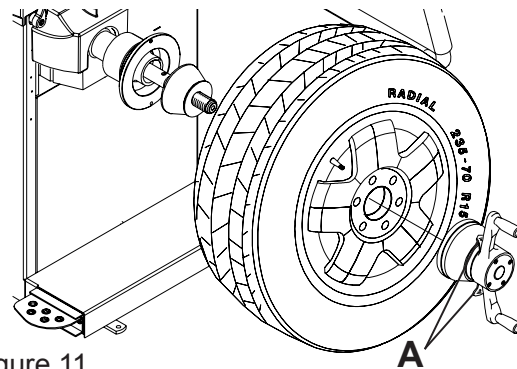

Figure 11
Mount the wheel as detailed below in Figure 11
4. Tighten Quick-nut securely with both hands. To operate the Quick-nut pull the lock-unlock lever (A, Figure 11). Slide the Quick-nut on the threaded shaft. When in contact with the rim, release the unlock lever and tighten firmly. To assist in centering the wheel properly, rotate the wheel on the shaft while tightening the quick nut.